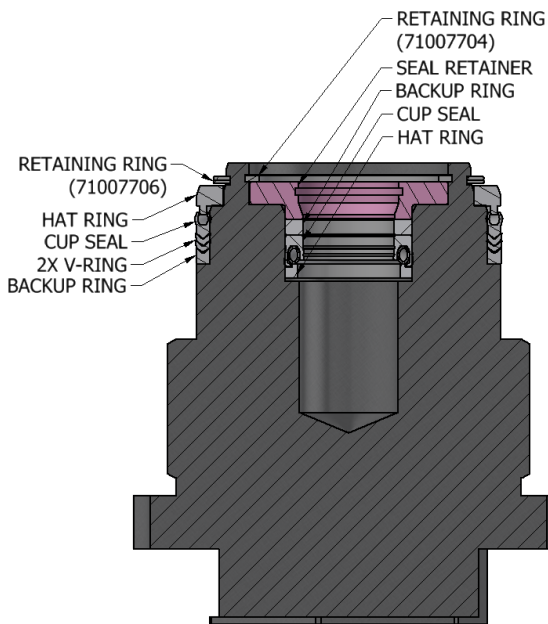

Figure 5 – Base Cap
- 8.15 Install the beige backup ring so that the ridged side faces up. Install the two black v-rings making sure they are nested with the backup ring. Lastly, install the cup seal with the spring side facing up. Orientation per Figure 5.